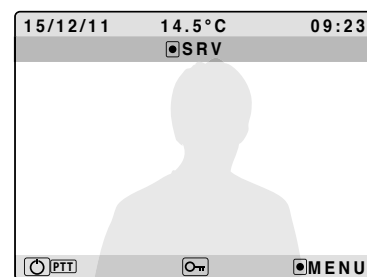

Fig. 15
- To enable the secondary service keep pressed the button until the activation signals (call tone plus message) are received (**Fig. 15**);